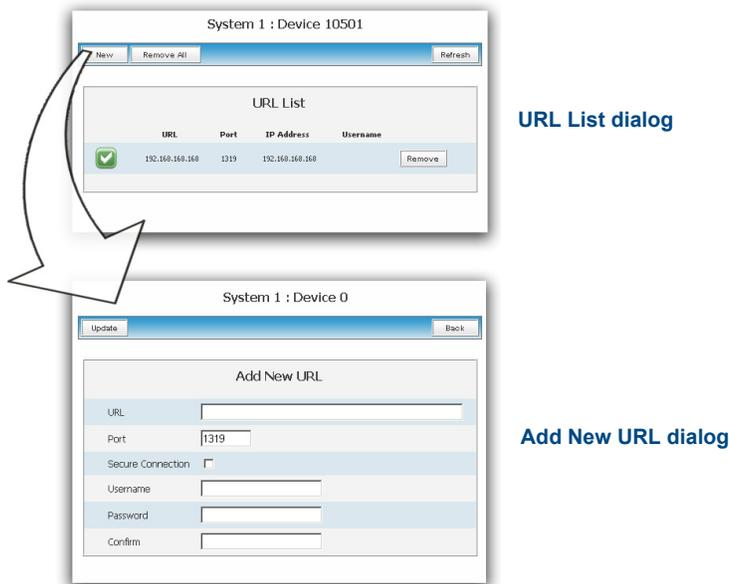

FIG. 55 URL List dialog
3. Click the **URL List** button to open the URL List dialog (FIG. 55). This dialog allows the user to view, add, and remove URLs from the specified devices URL list.